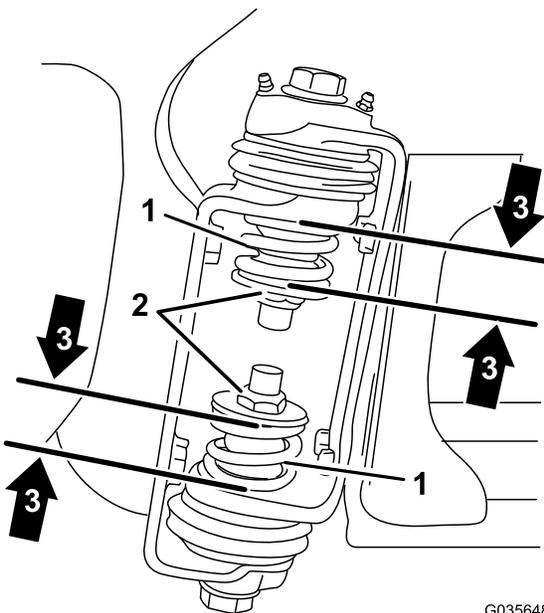

Figure 5
3. At the section hinge, measure the compression of the upper and lower springs while the sections are in their extended position (Figure 5).